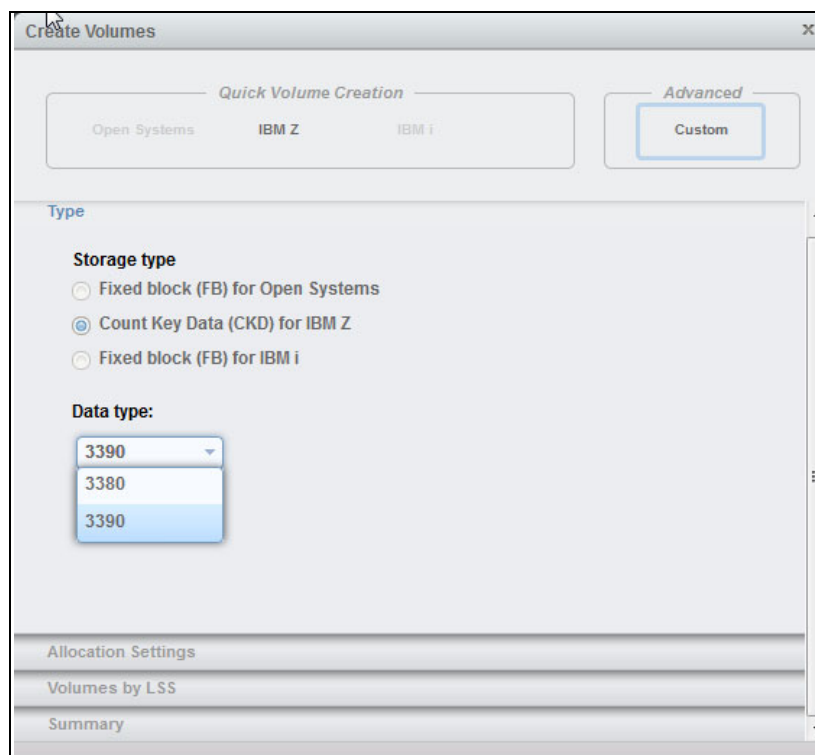

Figure 11-98 Create CKD Volumes: Advanced: Type Selection
2. The Type selection window appears, as shown in Figure 11-98.